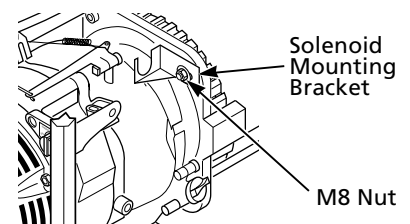
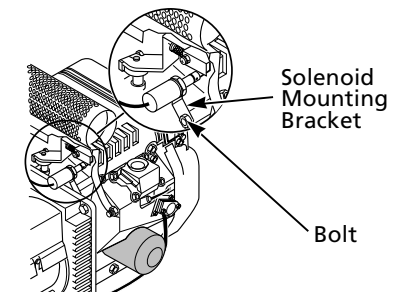

Figure 31 - Solenoid Bracket Location (Models 5U936D and 3W739D Only)
Figure 32 - Solenoid Bracket Location (Model 3LW64A Only)
4. Loosen the M8 nut that holds the solenoid mounting bracket to the generator (Models 5U936D and 3W739D only, See Figure 31). Do not loosen bolt that holds the solenoid mounting bracket to the generator on Model 3LW64A, See Figure 32).